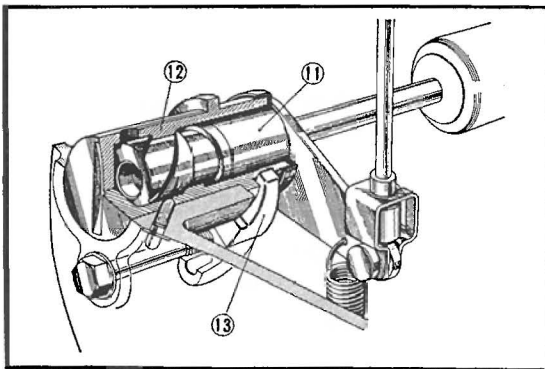

Fig. 3.81 Clutch adjusting mechanism
Clutch adjustment is made by loosening the clutch adjuster fixing piece lock bolt ⑬ and turning the clutch adjuster ⑫. (Fig. 3.81)